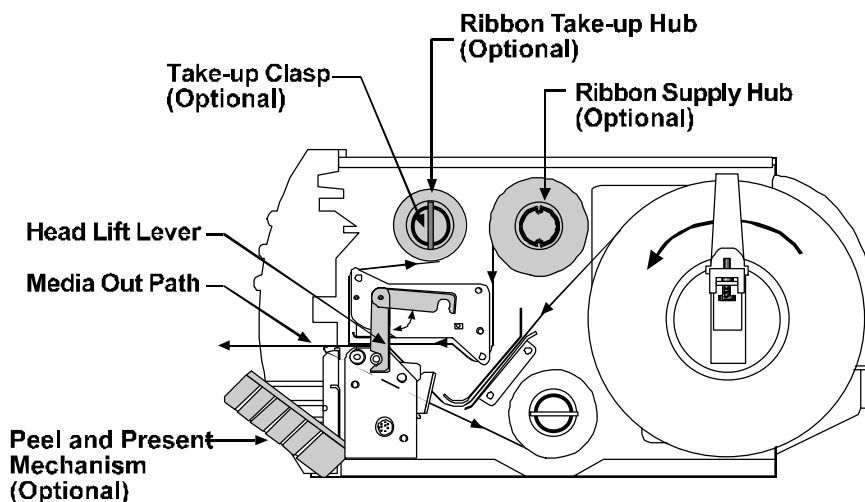

Figure 1-7 Ribbon Loading
Load ribbon as shown below in Figure 1-7. The ribbon can be wound directly on to the hub and held with a clasp, or a used ribbon core can be placed on the hub. To load the ribbon complete the following steps:
2. Slide the Ribbon on to the Ribbon Supply Hub. Route the ribbon, (see Figure 1-7), and attach the ribbon to the Ribbon Take-up Hub.